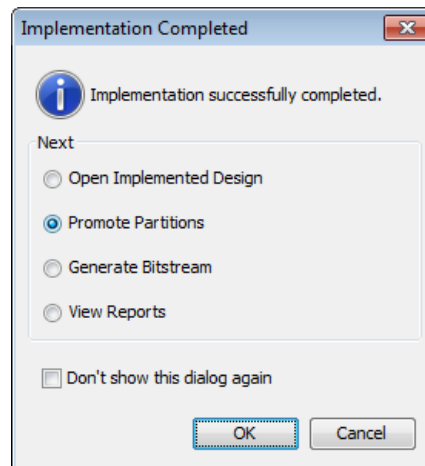

Figure 4-31: Implementation Completed Dialog Box
- Once a Configuration has been successfully implemented, it can be promoted to allow future implementations and Configurations to import the results. Use **Promote Partitions** in the dialog box, shown in Figure 4-31, page 75, to promote the Configuration.